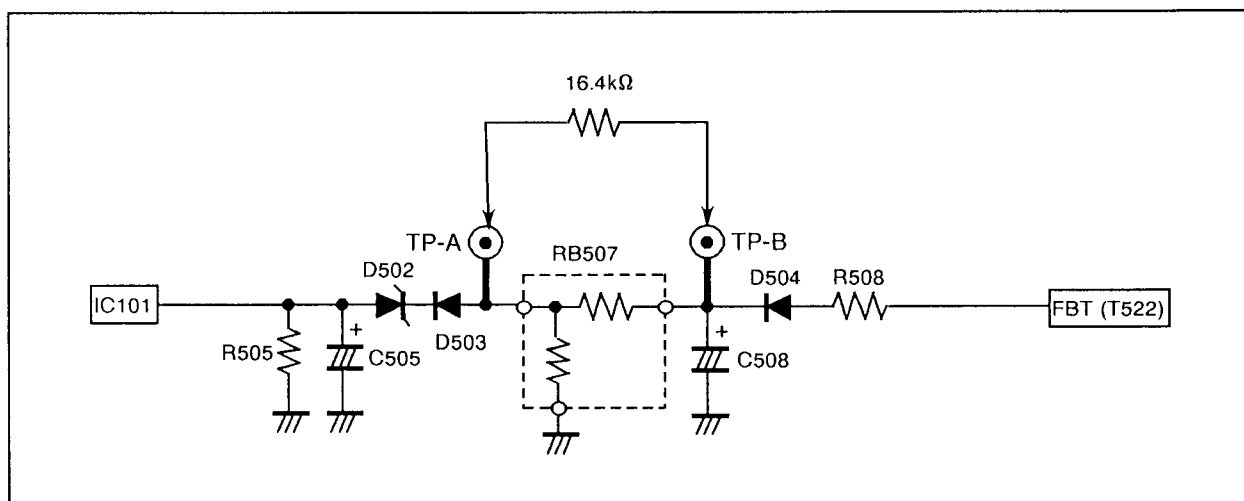

Fig. 2
- (1) Make sure that the POWER switch is at OFF.
- (2) Shown in Fig. 2, set the resistor 16.4k Ω 1/4W to RB507 (between TP-A and TP-B).
- (3) Turn the POWER switch ON.
- (4) Make sure that the screen picture disappears.
- (5) Turn the POWER switch OFF.
- (6) Remove the resistor 16.4k Ω 1/4W from RB507 (between TP-A and TP-B).